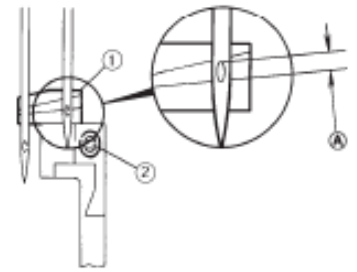

Fig. 12
A. Adjust so that the line (A) of needle guard (rear) (item 1) is at bottom of the right needle eye as shown in Fig.12 when the needle bar is in the lowest position.
To adjust, loosen screw (item 2) and move needle guard (rear) (item 1) up or down (see Fig. 12).